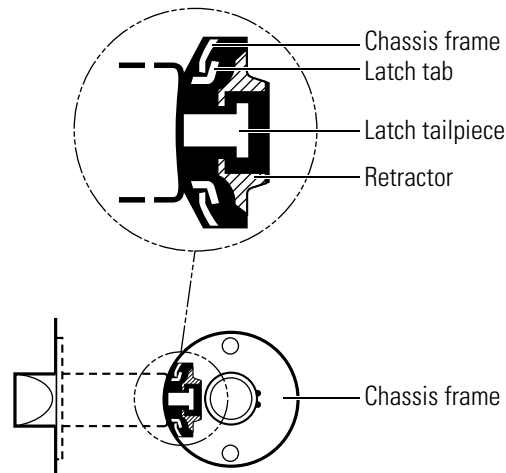

Figure 3.30 Engaging the retractor in the latch
2. Align the chassis with the latch. Make sure that the latch tabs engage the chassis frame and the latch tailpiece engages the retractor, as shown in Figure 3.30.